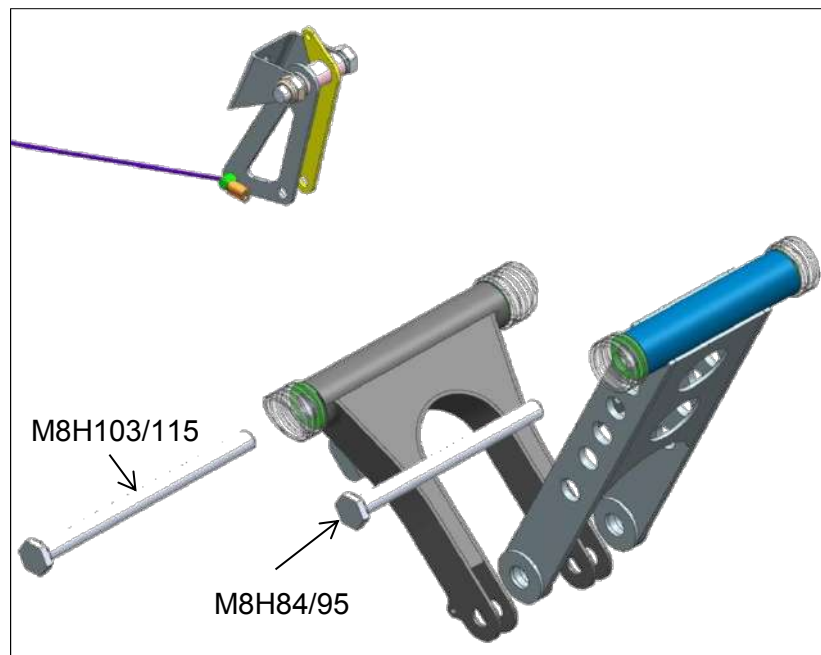

Figure 32-24: Reinstalling the tail wheel arm bolts
9. Reinstall M8H110/110 from the left to connect FA1TW to the fuselage. Reinstall M8H85/95 from the left to connect RL1TW to the fuselage (Figure 32-24). Secure with M8 half nuts on the right.